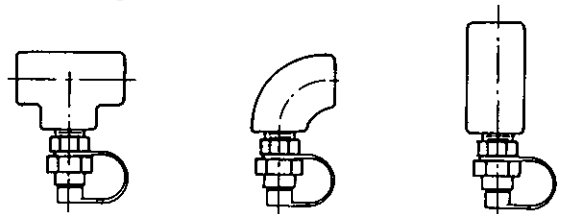

FIGURE 14
6. Make certain a blow-off cap is in place over each nozzle tip. These blow-off caps are designed to keep grease from building-up on the nozzle orifice and inhibiting the agent flow. See Figure 14.